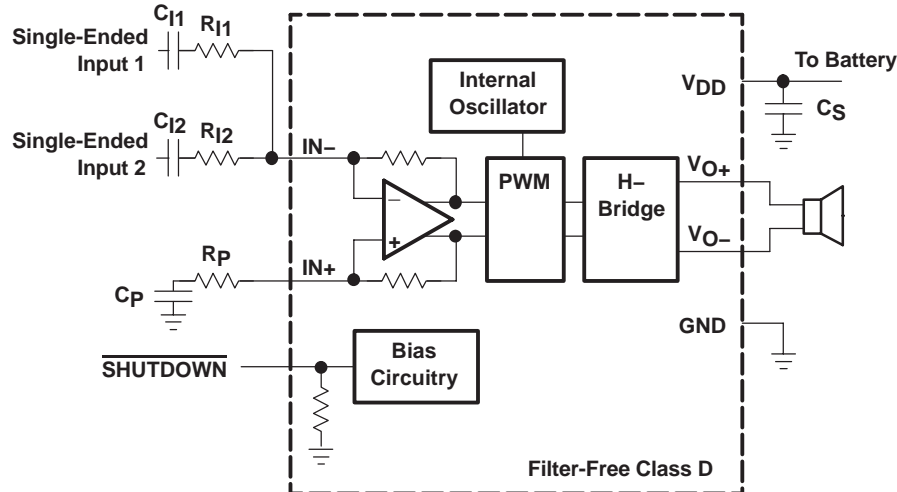

Figure 32. Application Schematic With TPA2010D1 Summing Two Single-Ended Inputs
Four resistors and three capacitors are needed for summing single-ended input signals. The gain and corner frequencies (f_{c1} and f_{c2}) for each input source can be set independently (see equations (9) through (12), and Figure 32). Resistor, R_P , and capacitor, C_P , are needed on the IN+ terminal to match the impedance on the IN– terminal. The single-ended inputs must be driven by low impedance sources even if one of the inputs is not outputting an ac signal.